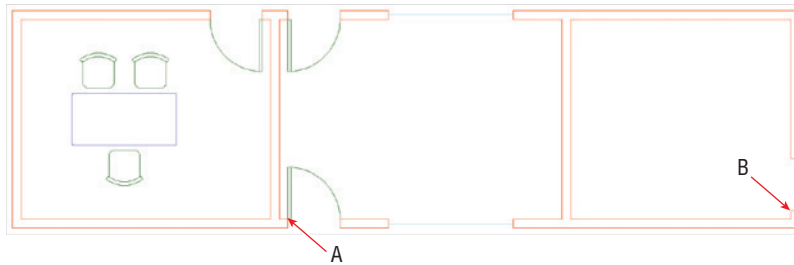

FIGURE 7.14 Copying a block
16. Click the Copy tool in the Modify panel, select the door at the bottom of the middle room, and press Enter. Click points A and B shown in Figure 7.14 to copy a door block into the room on the right. Press Esc to end the COPY command.